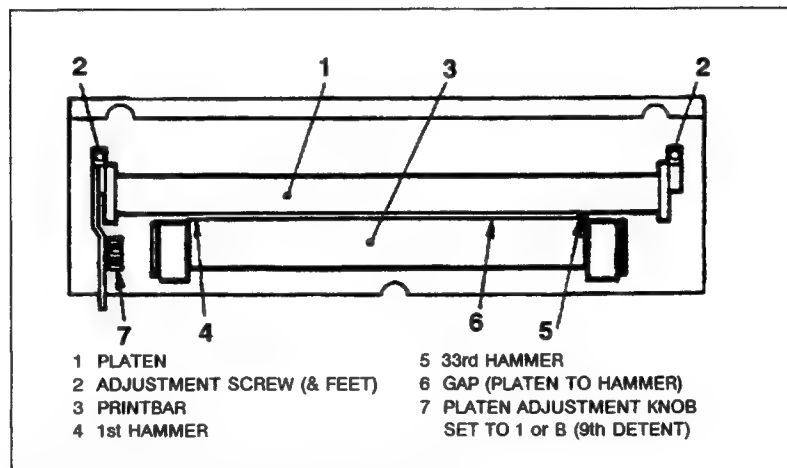

Figure 5-5. Print Mechanism (top view)
- c. Using a 3mm hex driver, loosen the two screws which secure the platen mounting feet to the print mechanism (see Figure 5-5).
- d. Adjust the platen by placing the 0.013 inch feeler gauges (P/N 02564-00081) between the ribbon shield and the platen, one at each end of the platen, one under hammer #1 (first hammer) and one under hammer #33 (last hammer) as shown in Figure 5-5. Grasp the platen and the print bar with one hand, squeezing them firmly together so that the platen is held snug against the gauges. Then tighten the screws.